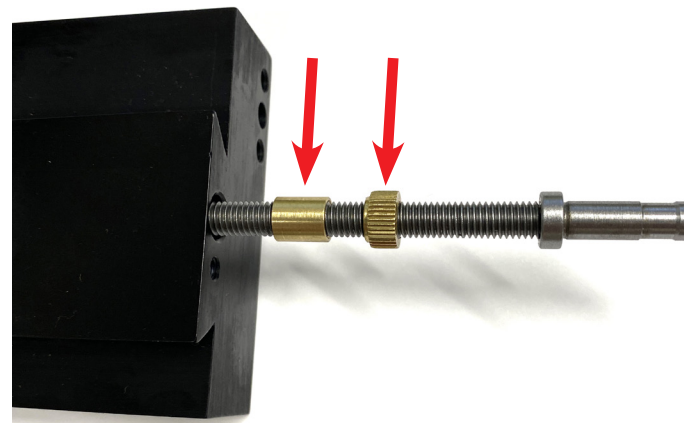

FIGURE 3—The left arrow is pointing to the slide nut (P/N 40890/41890) and the right arrow is pointing to the backlash nut (P/N 50130L/51130L).
1. Thread the slide nut and the anti-backlash nut onto the slide screw as shown in Figure 3.